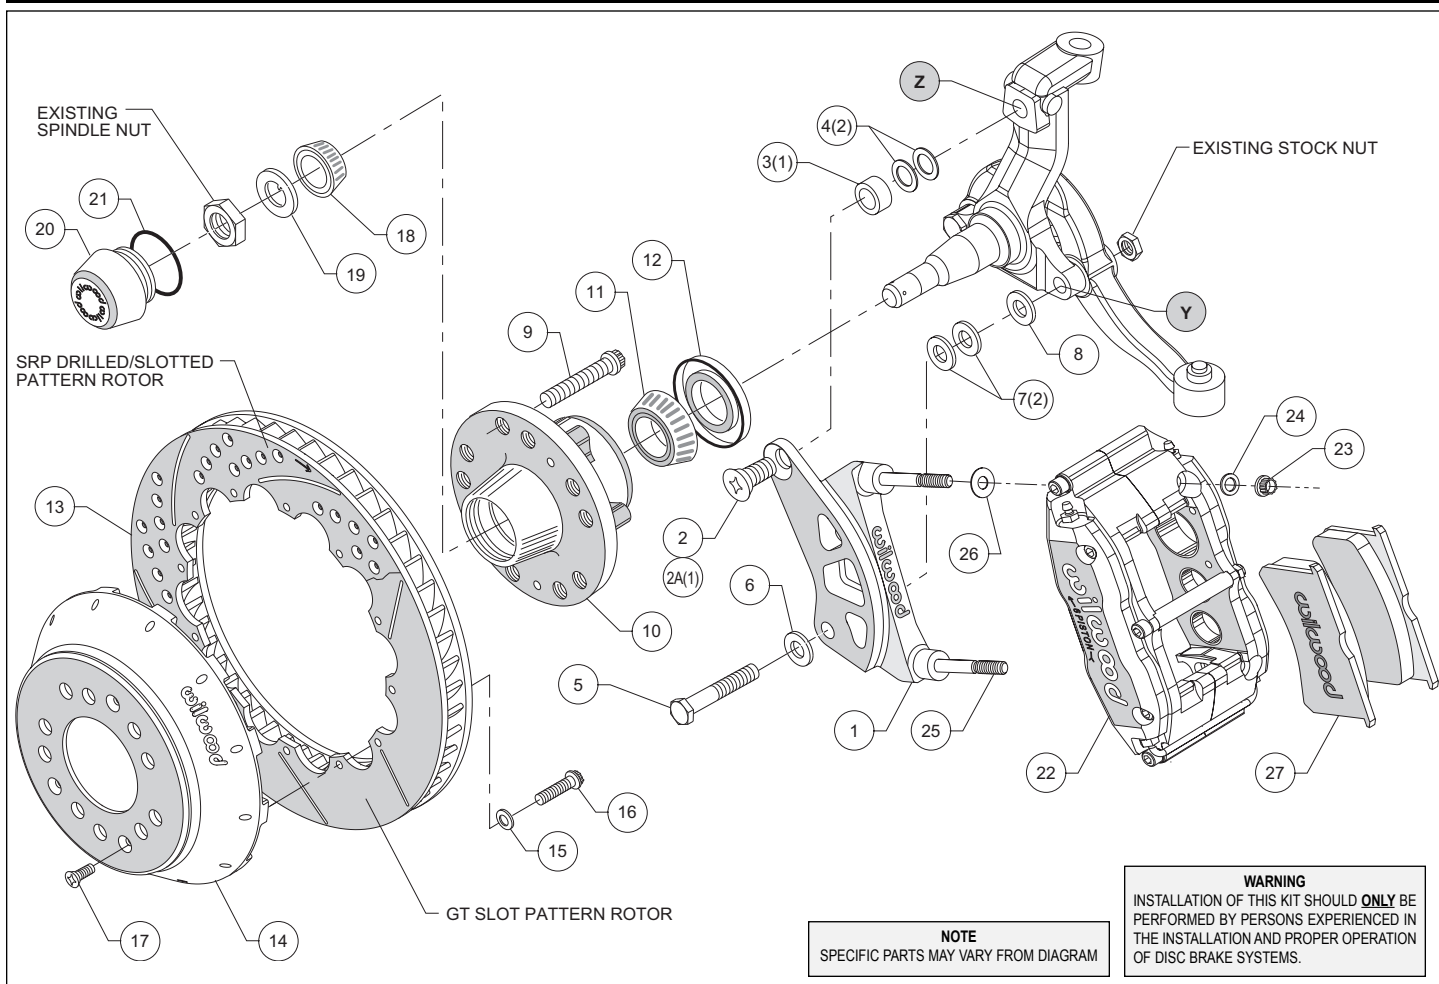

Figure 1. Typical Installation Configuration
- NOTE:** 1964-66 spindles may require the following modifications (reference figure 1 and 3):